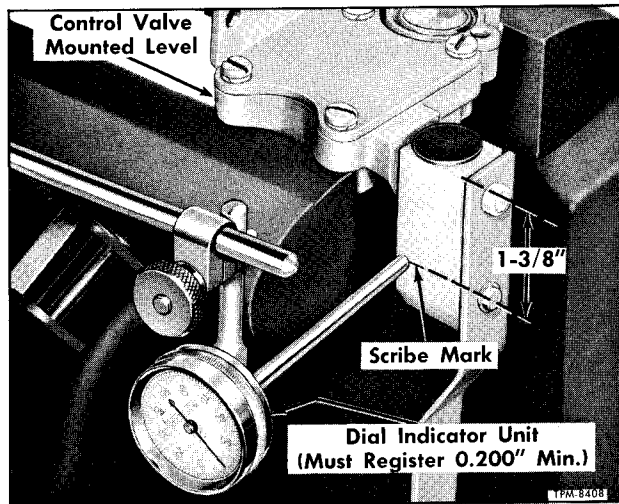
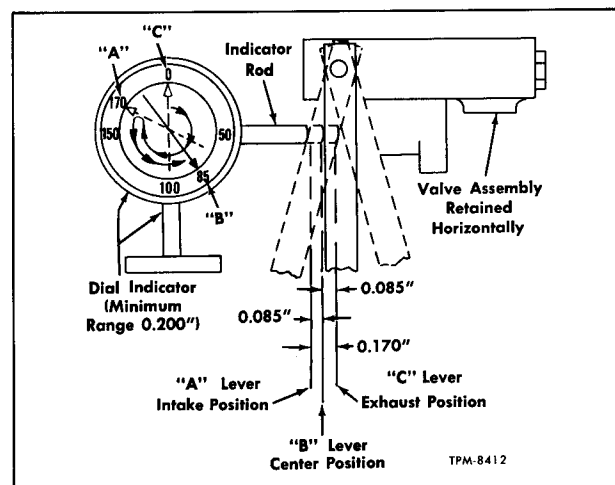

Figure 6—Dial Indicator Properly Installed
Figure 7—Locating Valve Overtravel Lever Center Position
4. Referring to figure 6, scribe a line 1-3/8-inch from plug end of overtravel lever control body.
5. Place valve assembly in vise as shown in figure 6.
8. Locate dial indicator in position as shown in figure 6. Move overtravel lever to full air exhaust position - TOP OF DELAY PISTON FLUSH WITH TOP OF BORE - without overtraveling (position "C," fig. 7). Relocate indicator push rod to just contact 1-3/8 inch mark on control body and reset indicator dial to zero (0) at this point (position "C," fig. 7).
9. Move overtravel lever to full air intake position without overtraveling (position "A," fig. 7) (delay piston at bottom of bore). Take indicator reading which may vary from 0.160" to 0.190".
11. Divide the total travel dimension by two (example: $0.170" \div 2 = 0.085"$), then move overtravel lever back this amount (0.085") to the center (position "B," fig. 7).